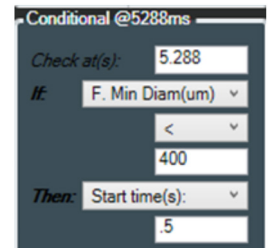

Figure 73
- **“If” Statement:** Allows the user to embed conditionals in the script. It can be read as a statement. In the figure to the right, the script will Check the listed condition at 5.288s. If Fiber Min Diam is less than 400, then start time will go to 0.5 s. See Figure 73.